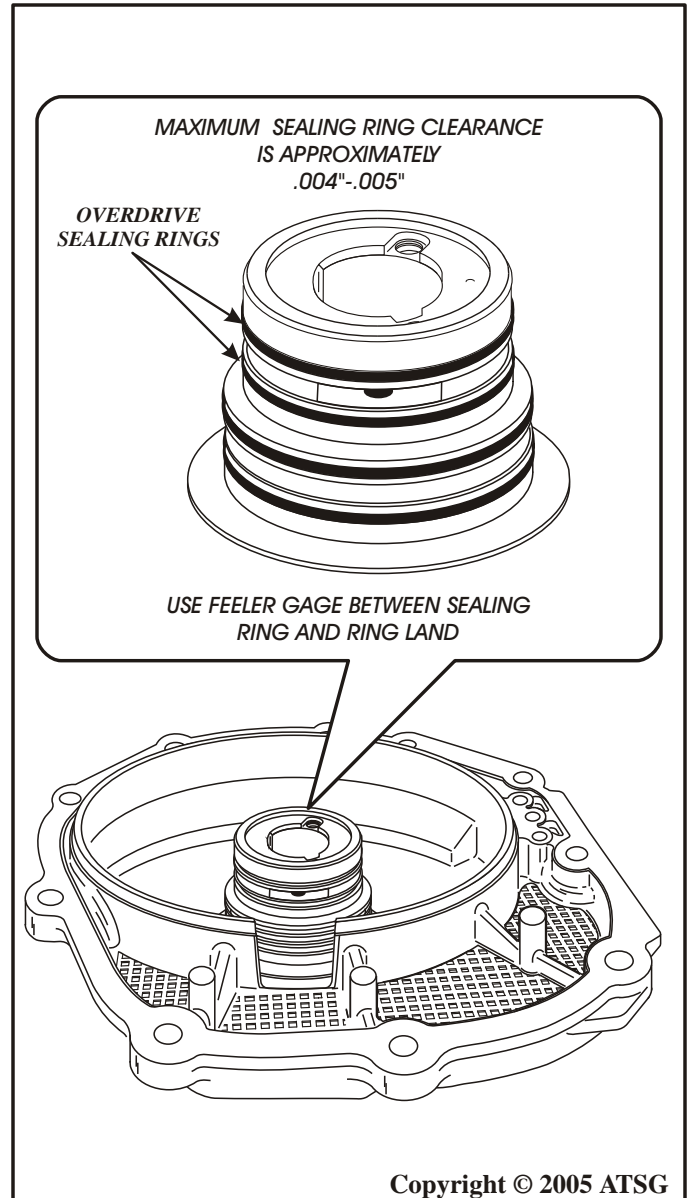

Figure 73
Before proceeding with the rear cover component rebuild section, it is imperative that the journal and seal ring area of the rear cover be inspected **very closely** for any wear and/or damage, as shown in Figure 73. Ensure that sealing ring groove clearance is within specification using feeler gage.
2. Inspect the end cover journal and sealing ring area for any wear and/or damage and check seal ring groove clearance with a feeler gage, as described in Figure 73.